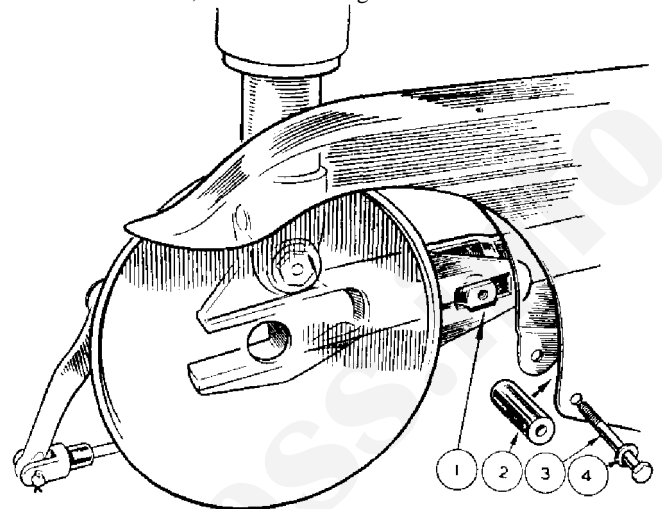

FIG. 74 Brake Anchorage
Remove bolt (3) and spacer (see Fig. 74), and chain guard.